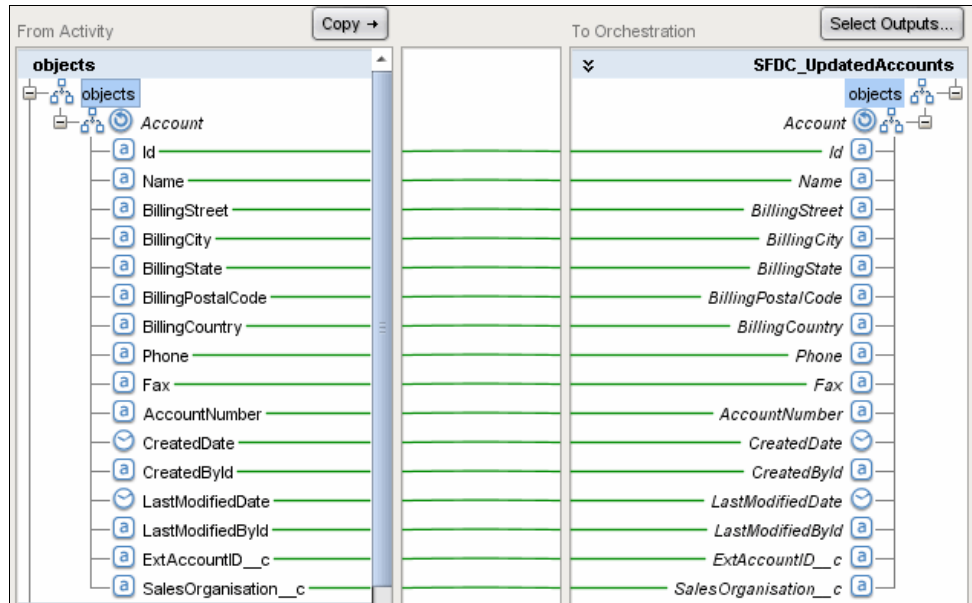

Figure 10-113 Query map outputs
- b. Create a link from the objects element of the objects variable to the objects element of the SFDC\_UpdatedAccounts variable. This mapping links all the Salesforce.com data fields as shown in Figure 10-113 on page 433.